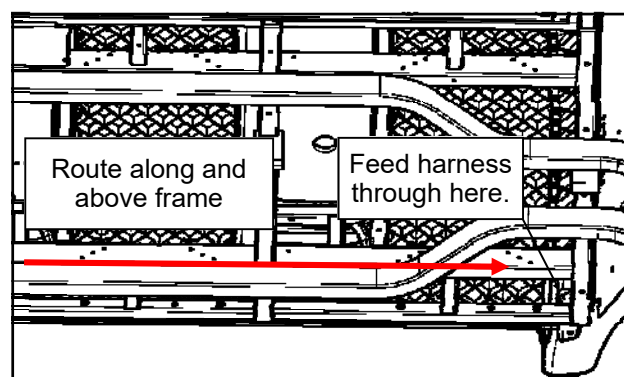

Figure 15.2: Cab harness routing
- 15.2 Feed the cab wire harness down under the vehicle, through the gap behind the battery. Feed the harness above the frame, through the spaces in the vehicle floor panel, and up to the front fender. **(Figure 15.2)**